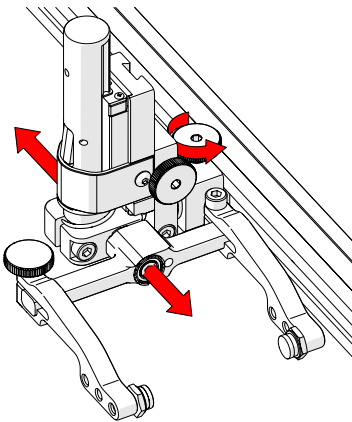

Fig. 32 - Adjust on frame bar
1. The probe holder adjustment knob allows the probe holder to be attached to a frame bar, as well as horizontal positioning on a frame bar (Fig. 32).